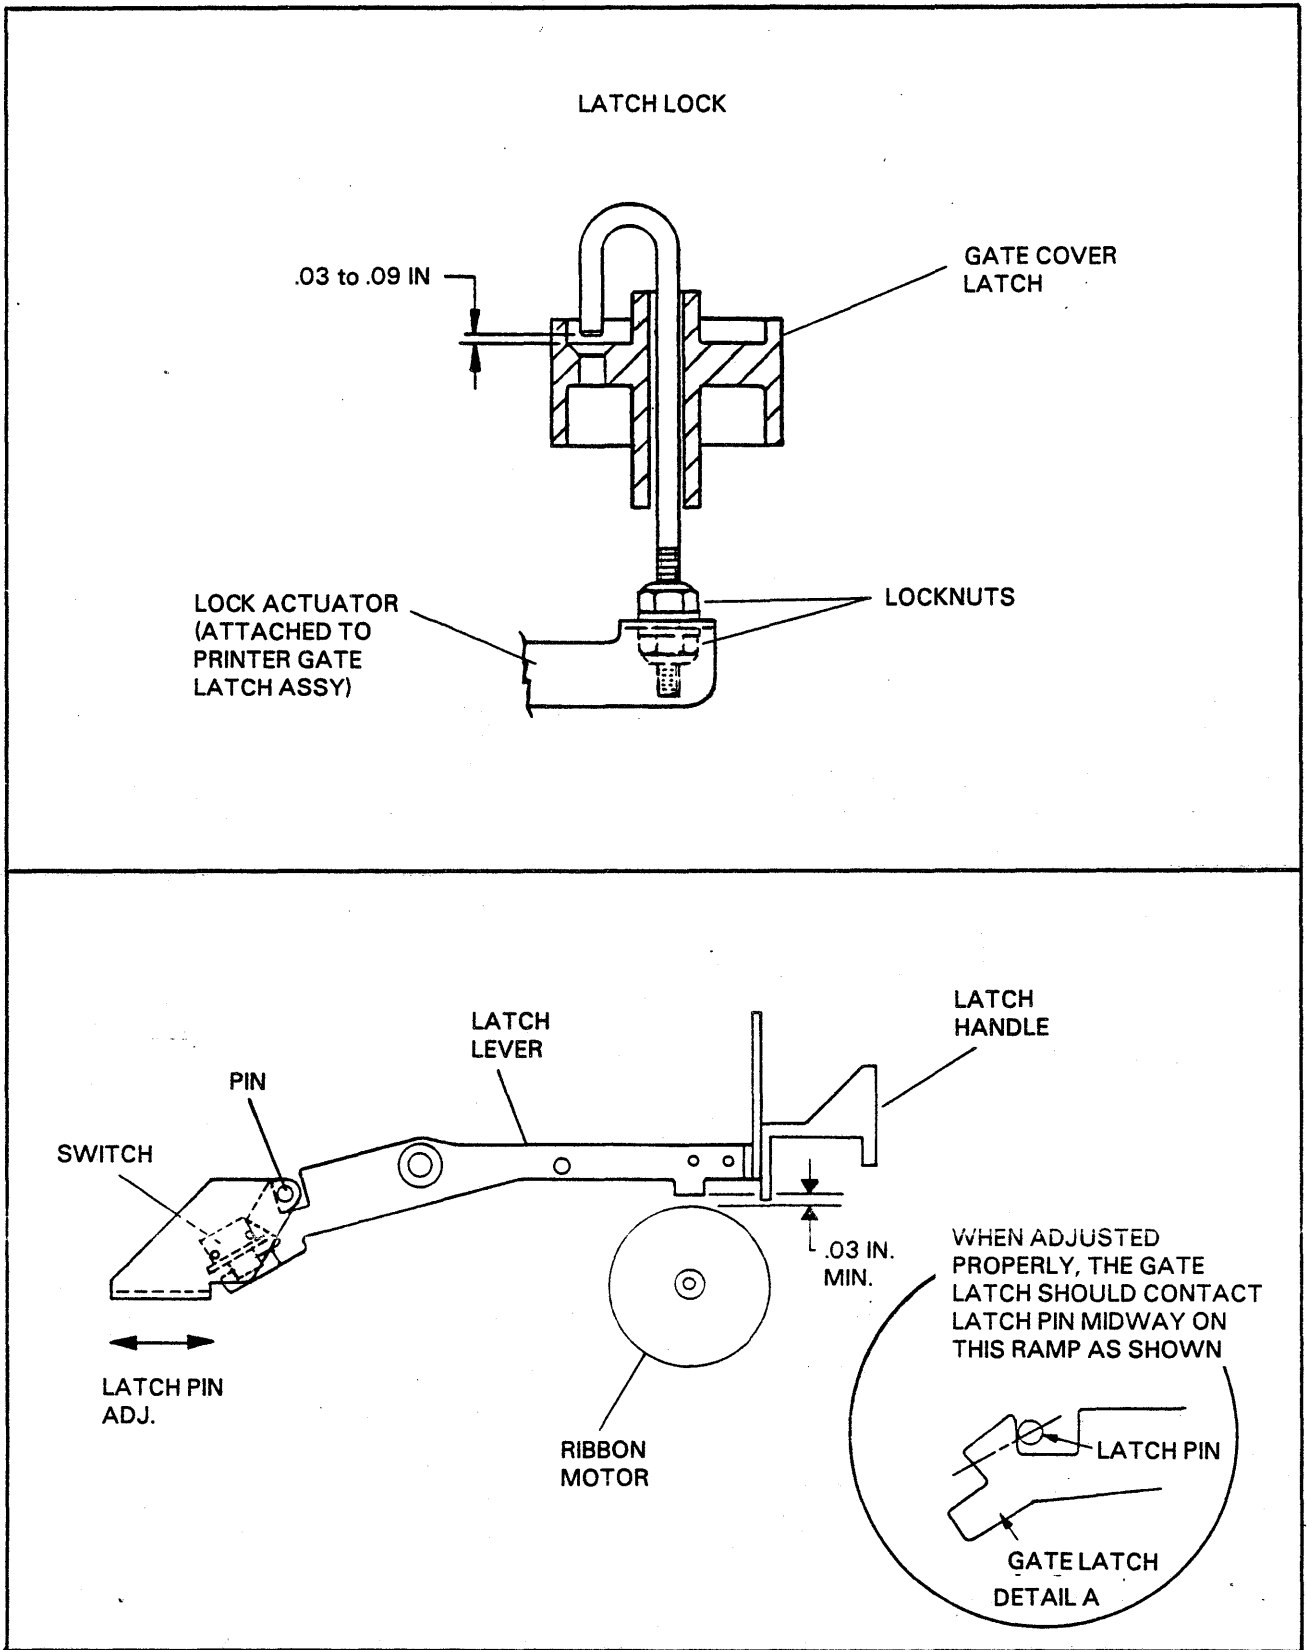

FIGURE 5-18. GATE LATCH AND SWITCH ADJUSTMENTS
### Gate Latch Adjustment (See Figure 5-18)
5. Repeating step 4, adjust the latch pin bracket until the gate latch and latch pin are aligned as shown in detail "A" of Figure 5-18. When the gate is adjusted properly, there should be no play between the gate stop and the gate stop screw (See detail "A" of Figure 5-18) and the gate latch should be contacting the latch pin midway on the latch ramp. After the gate is closed, a 1.030 min. gap should be maintained between the lever latch and ribbon motor.